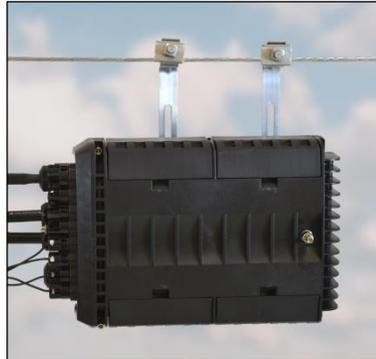

Figure 9
11. Tighten the clamps around the strand to suspend the FSDC (Figure 9). The tap brackets can accommodate strands of 1/4" to 3/8" diameter.